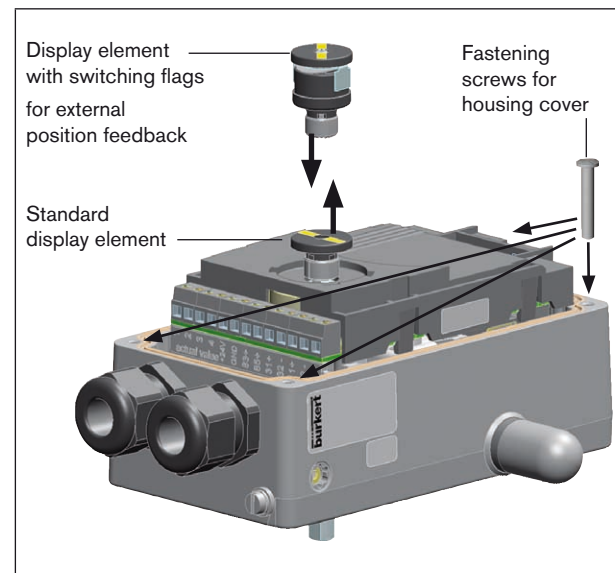

Fig. 1: Replacing display element
- Remove the standard display element from the spindle (see Fig. 1:).
- Push the display element with switching flags for the external position feedback all the way onto the spindle (see Fig. 1:).